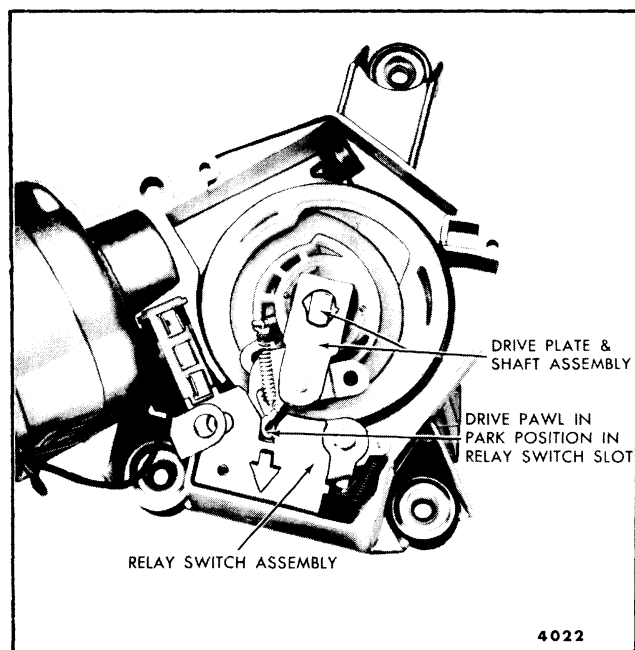

Fig. 2-28-Testing Relay Switch
a. If gear mechanism is in full park position, insert a small screwdriver into the switch slot (between the drive pawl and the relay latch arm) and push relay latch arm downward and toward the relay coil in direction of the arrow in Figure 2-28. Next, remove a small amount of insulation from black lead with pink tracer and touch test lamp to exposed wire.